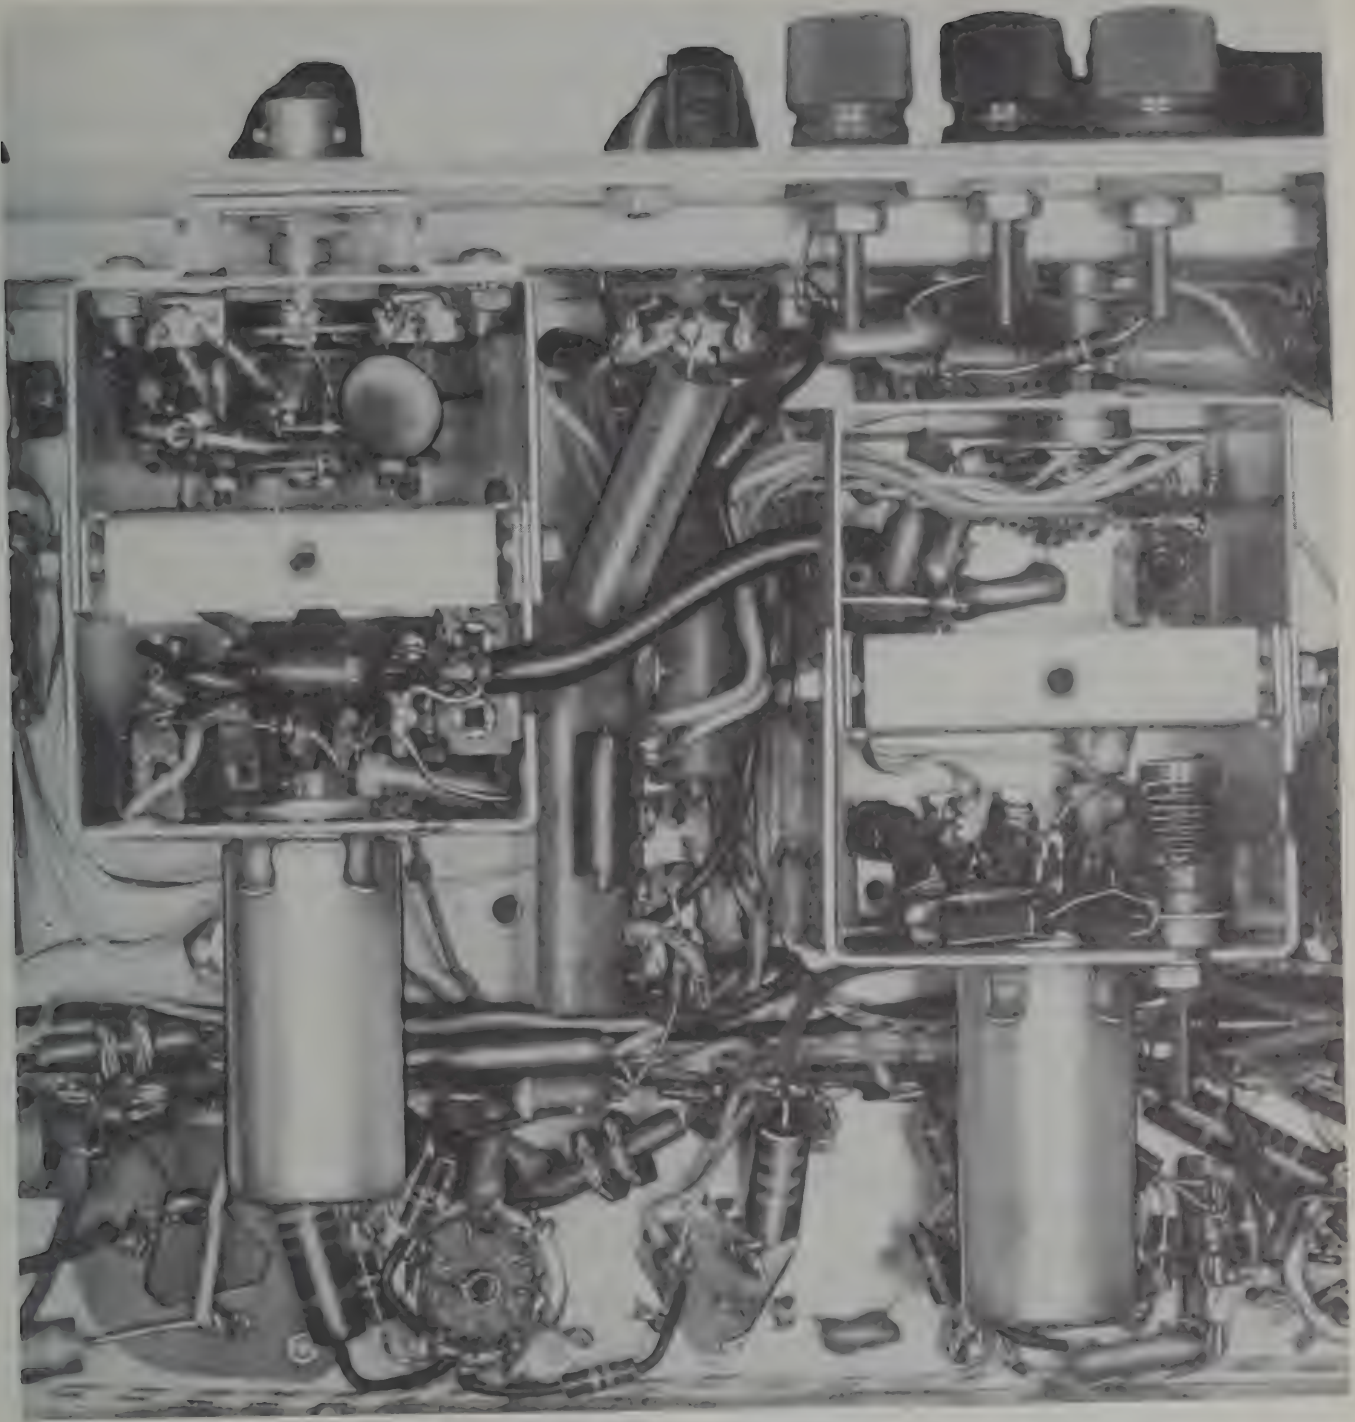

**Figure 8-1. Correct Method of Folding Shield Boxes**
| 161514 | Center partitionSweep converter shield boxScrews (4 used) | Replace center partition (16). Resolder wire and capacitor which connect tube section of sweep converter shield box (15) with switch section, and fold shield box (15) so that the four screw holes (two on each side) coincide.CAUTIONSee figure 8-1 for correct method of folding shield box.Replace screws (14) in sides of box. |
| 171312111098 | Nut and lockwasherNut and lockwasherRound-head screws (4 used)Coaxial connectorCenter partitionOutput-attenuator shield boxScrews (4 used) | Place coaxial cable connector (11) in position and fasten to chassis with the four round-head screws (12). Replace nuts and lockwashers (13) and (17). Resolder copper ribbon which connects tube section of shield box to switch section. Replace center partition (10). Fold shield box (9) so that the four screw holes (two on each side) coincide.CAUTIONSee figure 8-1 for correct method of folding shield box.Replace screws (8) in sides of shield box. |